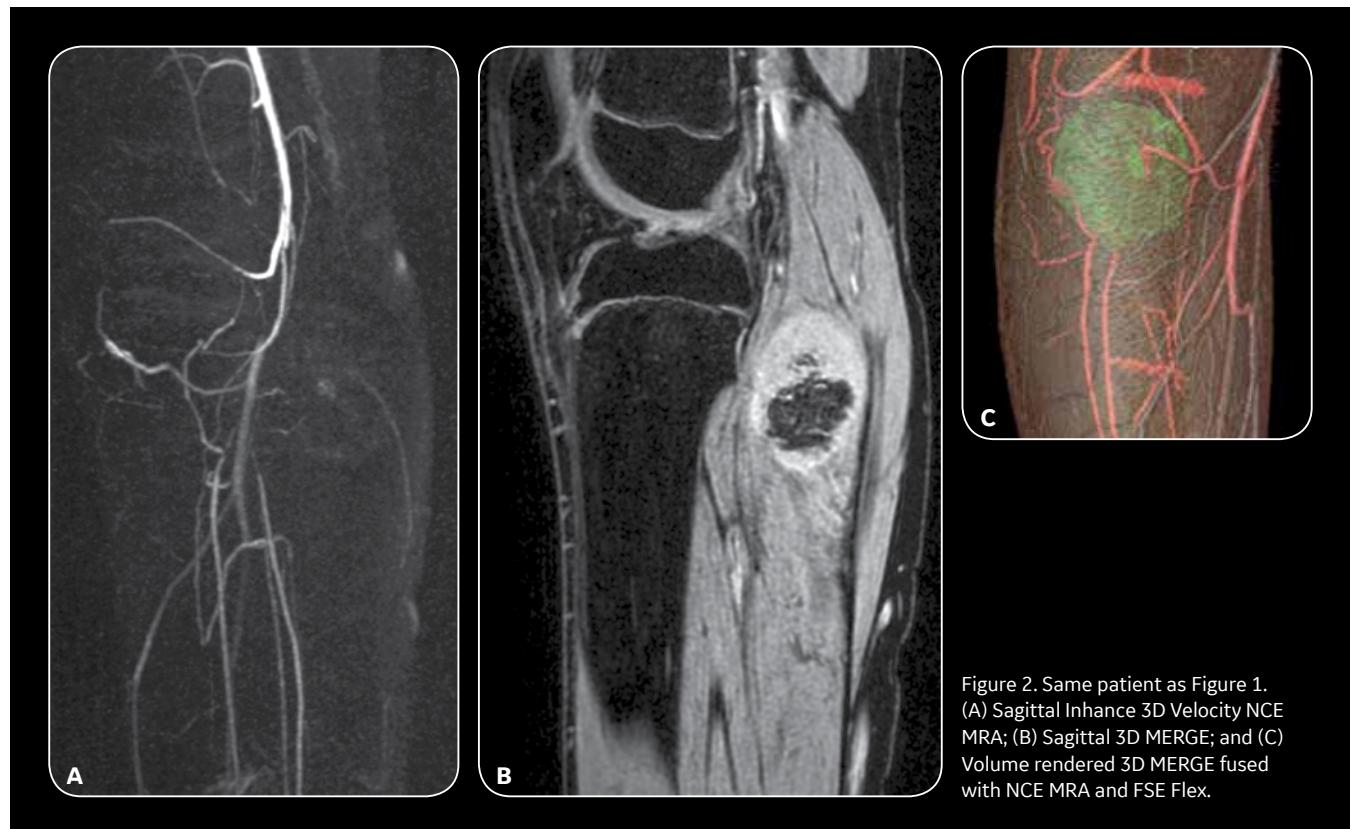

Figure 2. Same patient as Figure 1.
Figure 2. MAGiC is routinely used at Kawasaki Saiwai for neuro MR exams. The 48-channel Head Coil was used for this exam. (A) Axial DW-EPI in 45 sec. and (B) Axial T2 FLAIR in 3:07 min. Using MAGiC, from (A) and (B), the technologist can generate multiple contrasts, including (C) Axial T2w, (D) Axial T1w, (E) Axial DIR and (F) Axial PDw.
"We already use MAGiC in clinical routine neuro examinations to acquire excellent T1 contrast, which by principle is difficult to obtain at 3.0T," Naka says. "However, with the 48-channel Head Coil, we can reduce the scan time from six to three minutes because of the higher SNR," (Figure 2).
Figure 2. A female weighing 287 lbs. (130 kg) referred for MR imaging of the pelvis. (A) Sagittal T2w frFSE, $0.8 \times 0.9 \times 4$ mm, 6:08 min.; (B) Sagittal T2w PROPELLER MB, $0.9 \times 0.9 \times 4$ mm, 3:02 min.
For example, he obtained good contrast of the endometrium and junctional zone in a patient without motion artifact. In the upper abdomen, he acquired good images that were also not compromised due to motion (Figure 2).